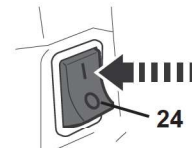

Fig. 24
- > Ensure the saw chain (3) does not come into contact with anything before starting the engine.
- > Set the ignition switch (24) to position "I" (Fig. 24).
- > Make sure the safety chain brake is engaged by pushing the front guard (2) fully forwards. (See above, page 31). The saw chain will not start if the chain brake is in the engaged position.
- > Set the ignition switch (24) to position "I" (Fig. 24)
- > Pull out the choke lever (25) fully and then press it in. The choke is now at OPEN position and the throttle is set at fast tickover position.
- > Hold the product securely to the ground and put your foot on the rear guard (10).